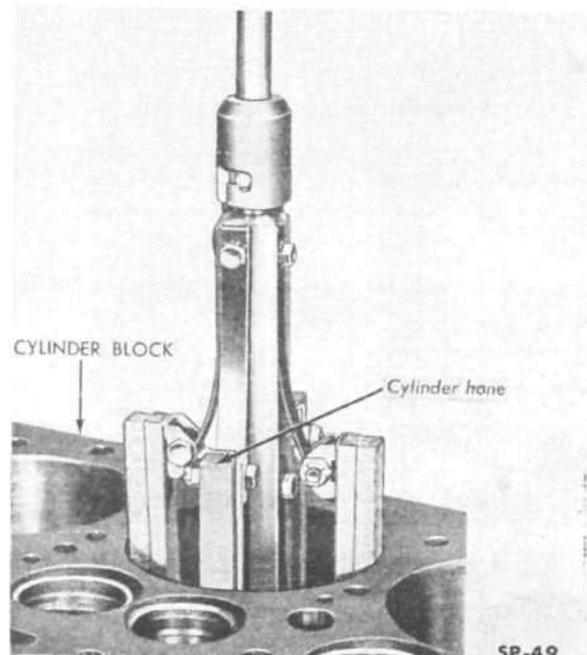

FIG. 35—HONING CYLINDER BORE
- b. If bore measurements are within the above limits, but indicate hollows or waviness, cylinders should be honed with 250 grit stones (Fig. 35). Pump hone up and down in cylinder while it is rotating to produce a satin-finish, diamond cross-hatched pattern approximately 30° with horizontal. Hone only enough to correct waviness.